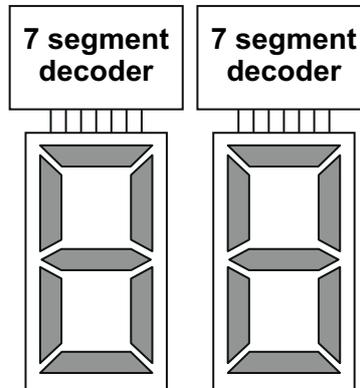

Fig. 1(e)
- (e) Part of a proposed circuit design for the bicycle speedometer is shown in **Fig. 1(e)** where the pulses from the phototransistor in **Fig. 1(d)** are to be counted for a period of 1 second and the speed in kph (kilometres per hour) is then to be displayed for 2 seconds on two LED seven segment displays. i.e. the display is effectively 'refreshed' every 3 seconds. During testing it was noted that when the brake disc rotated at 1 revolution per second the corresponding bicycle speed was 6 kph.
- (f) When selecting the infrared transmitter and phototransistor to act as a sensor to detect the rotation of the brake disc in **Fig. 1(d)** the designer considered a number of factors, e.g. whether a contact or non contact sensor would best suit the application. Discuss **three** other main factors that designers must consider when choosing the most suitable sensor for any particular application. Provide **two** different specific examples, other than the one shown in **Fig. 1(d)** that clearly illustrate how these factors influence the selection of a sensor. [5]